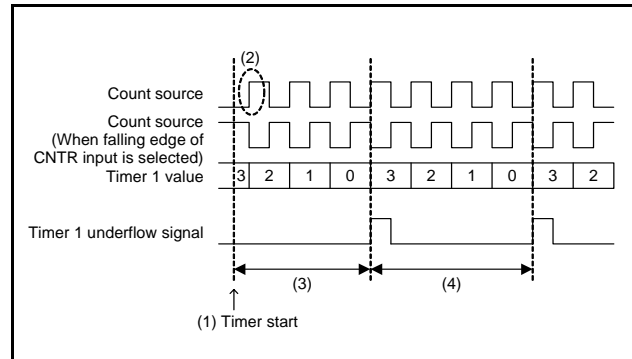

Fig 71. Timer count start timing and count time when operation starts (1)
(18) Prescaler, timer 1 count start timing and count time when operation starts
Count starts from the first rising edge of the count source (2) in Figure 71 after prescaler and timer operations start (1) in Figure 71.
Time to first underflow (3) in Figure 71 is shorter (for up to 1 period of the count source) than time among next underflow (4) in Figure 71 by the timing to start the timer and count source operations after count starts.